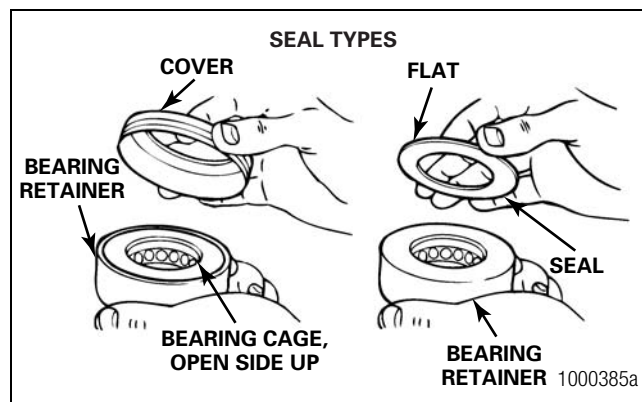
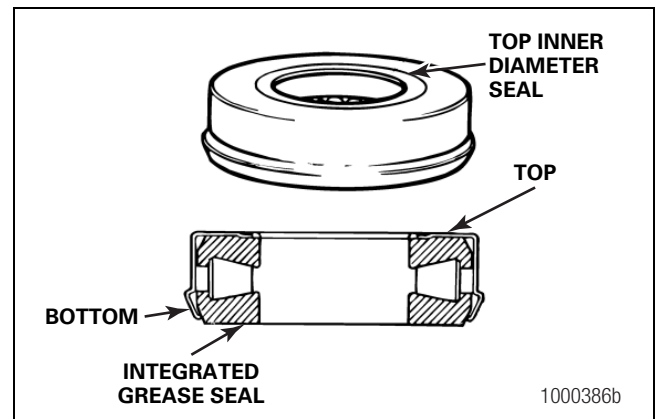

Figure 6.13
Figure 6.14
2. Install the seal onto the thrust bearing. Figure 6.13. The surface with the inner diameter seal must be on the top. The surface with the outer diameter seal must be on the bottom. Figure 6.14.